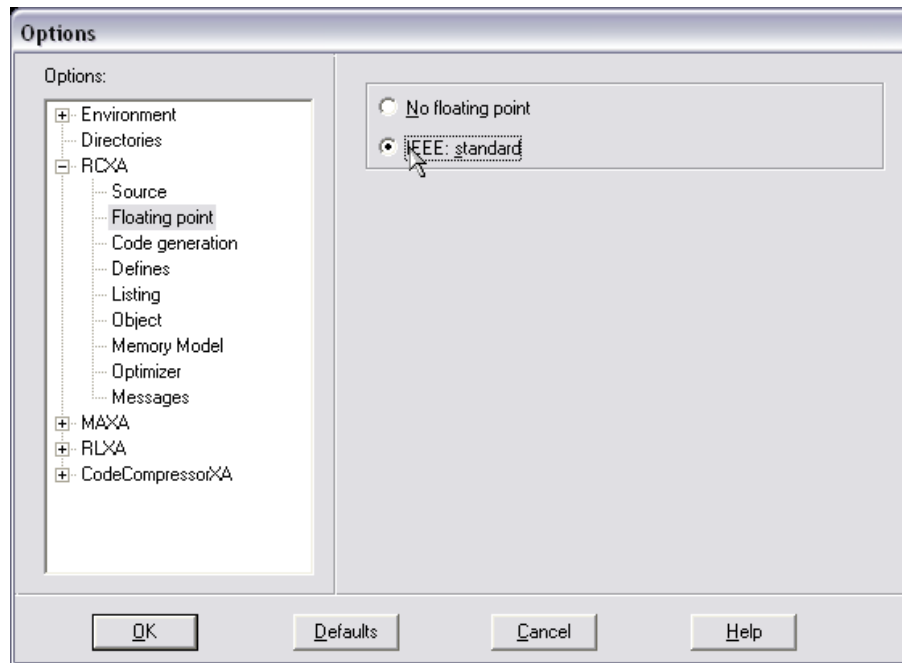

Figure 5-16 Compilation Option Configuration — Floating Point
- a) Spread the RCXA tree and configure the compilation options. Choose the “Floating Point” node and “IEEE: standard” option as shown in Figure 5-16: